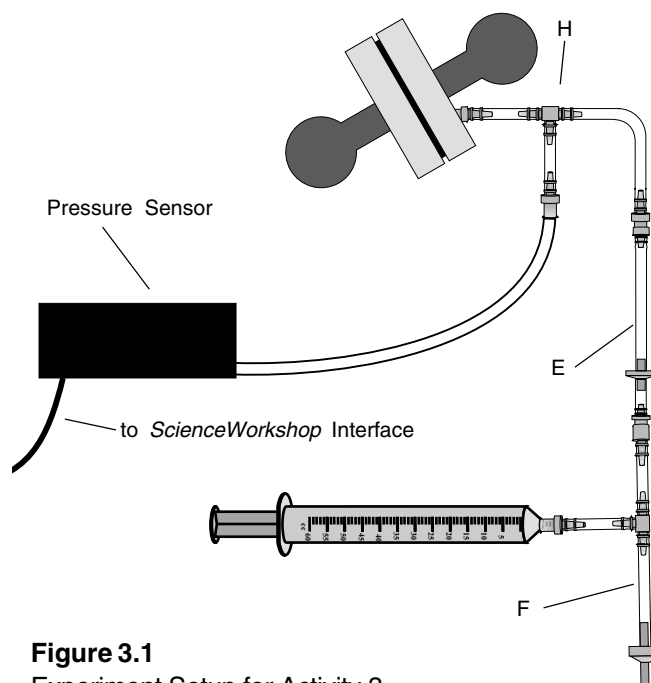

Figure 3.1
1. Assemble the Magdeburg plates so the chamber pressure can be monitored with a Pressure Sensor and ScienceWorkshop Computer Interface (Figure 3.1)